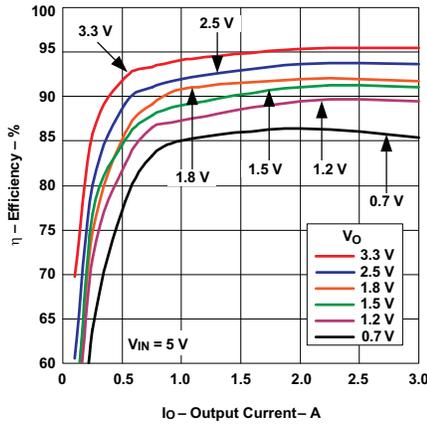
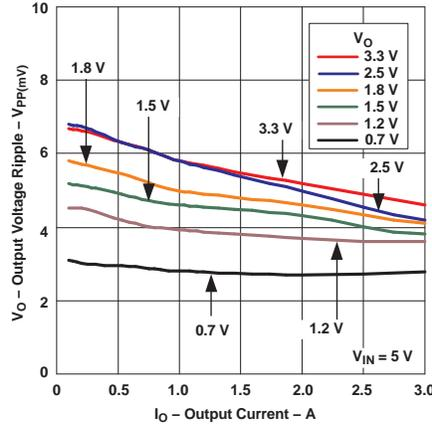
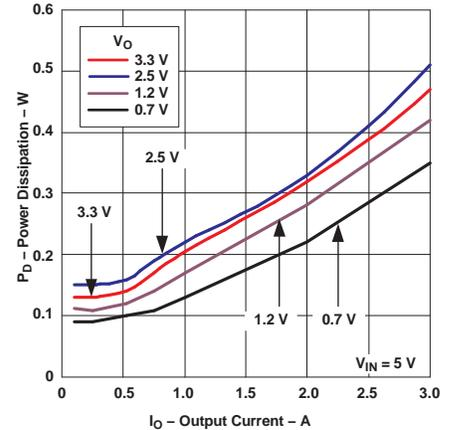

Figure 5. Efficiency vs. Output Current
Figure 6. Output Ripple vs. Output Current
Figure 7. Power Dissipation vs. Output Current
- (1) The electrical characteristic data has been developed from actual products tested at 25°C. This data is considered typical for the converter. Applies to Figure 5, Figure 6, and Figure 7.